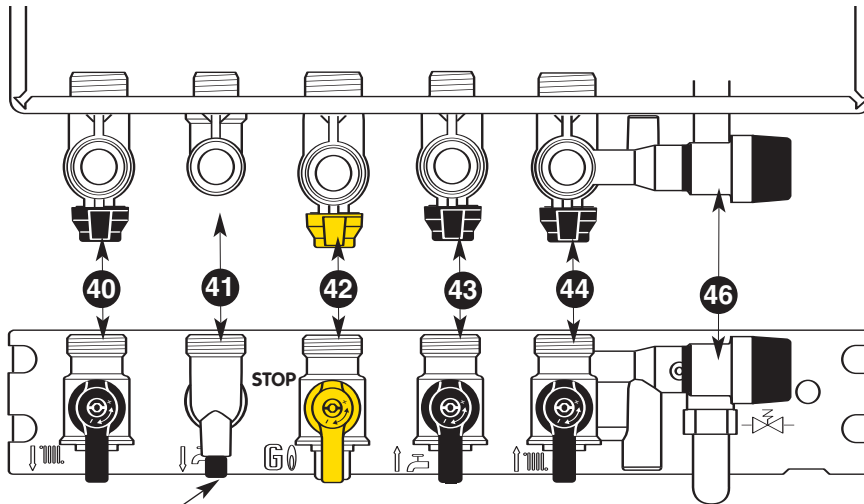

Fig. 21
Taps shown in Open position (**Fig. 21**)
3. Open the gas tap 42 (Fig.21).
Note : The configuration of the C.H. system can generate some gravity effect when the boiler is set in DHW mode only. It may result in a temperature rise of the heating pipes close to the boiler (or eventually a radiator). To avoid this it is possible during the summer period (Central Heating switched off) To close the Central Heating flow isolating tap (40 Fig. 21). Don't forget to open it before switching on the Central Heating mode again.
- Shut off the gas service tap **42 (Fig. 21)**
- Drain the water out the boiler with the drain valve **48 (Fig. 21)**